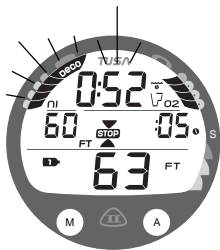

Fig. 63 - DV2 MAIN
**DV2 Main**, information includes (Fig. 63) -